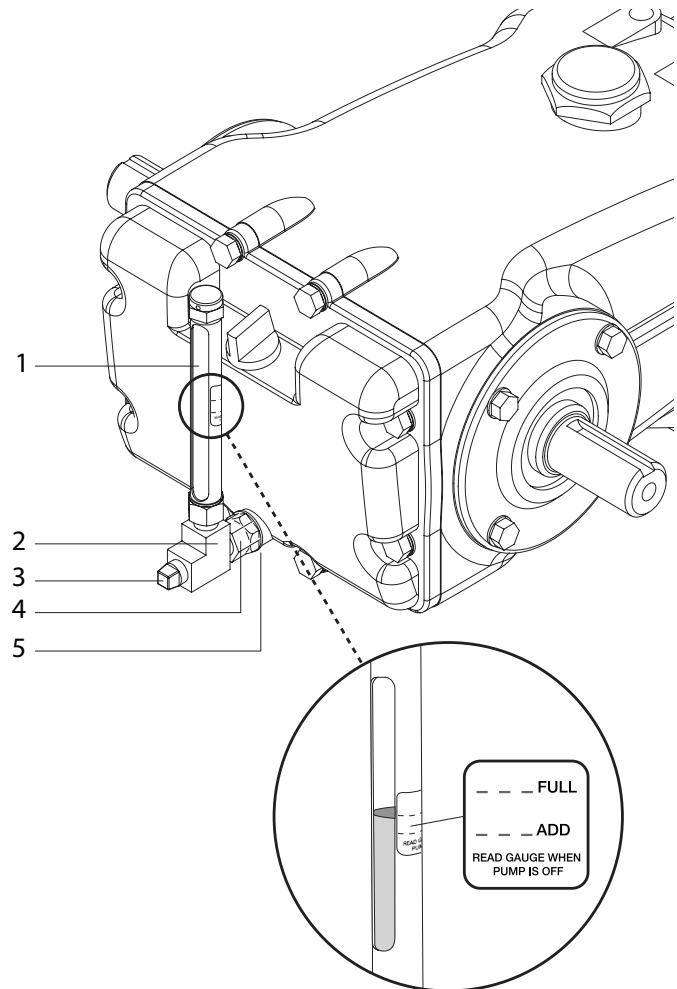

Figure 1
3. Install 1/4" BSP fitting (Figure1, item 4) with O-ring (5) into rear cover of pump.
4. Thread in tee (2) to fitting (4).
5. Thread in square end plug (3) into tee (2).
6. Thread in crankcase oil level gauge (1) into open port of vertical leg of tee (2).
1. Ensure square end plug (3) is installed at end of tee (2).
3. Fill pump to capacity as stated in pump data sheet. Add an additional 0.25 oz of oil to fill crankcase oil level gauge (1) to center of gauge.
5. Position silver label on crankcase oil level gauge (1) so that the "FULL" line is level with the oil when pump is not running (Figure 1).
**Note:** Wipe gauge (1) with mild solvent to remove oil residue before applying label.
1. Ensure square end plug (5) is installed in union fitting (6).
3. Fill pump to capacity as stated in pump data sheet. Add an additional 2 oz of oil to fill crankcase oil level gauge (1) and drain hose (8) to center of gauge.
5. Position silver label on crankcase oil level gauge (1) so that the "FULL" line is level with the oil when pump is not running (See Fig. 1).